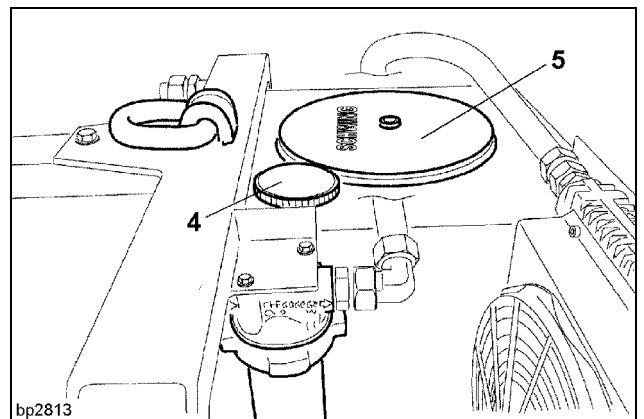

Fig.: 2
The filling neck is located at the top of the reservoir and can be accessed after loosening the upper machine cover (4) (Fig.: 2).